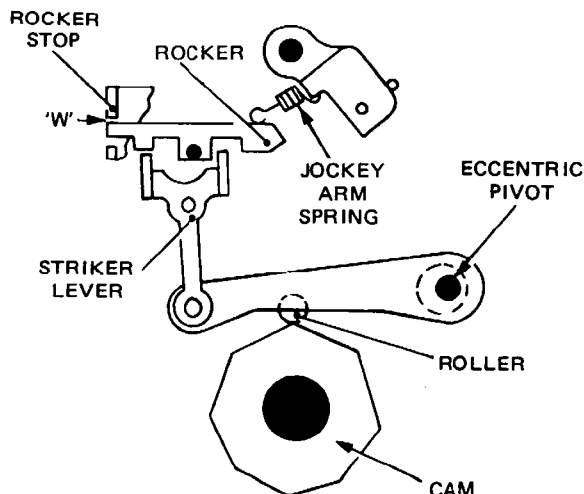

**Fig. 4.25 TRANSMITTER STRIKER AND CONTACT BLOCK ASSEMBLY**
- Remove the two upper screws and slacken the two lower screws securing the transmitter back-plate, Fig. 4.25, to the main casting.
- (d) Slacken the two lower back-plate screws again and slide the back-plate, Fig. 4.25, to the left against its left-hand abutment pin. Secure the back-plate in this position with the four screws.